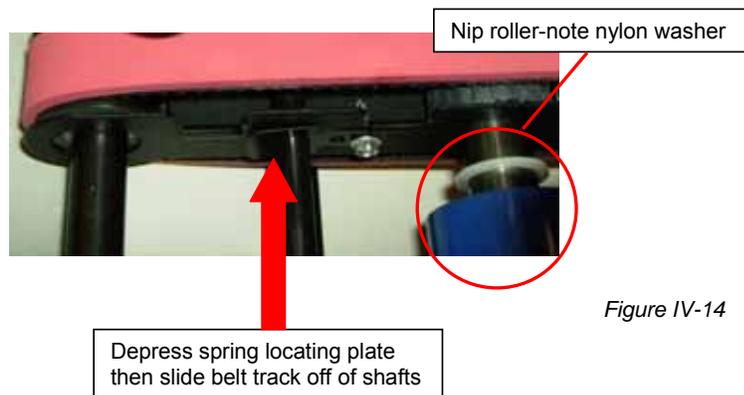

Figure IV-14
- c. Remove belt track assemblies by depressing spring locating plate on side of belt track and then sliding belt tracks off shafts. See figure IV-14.